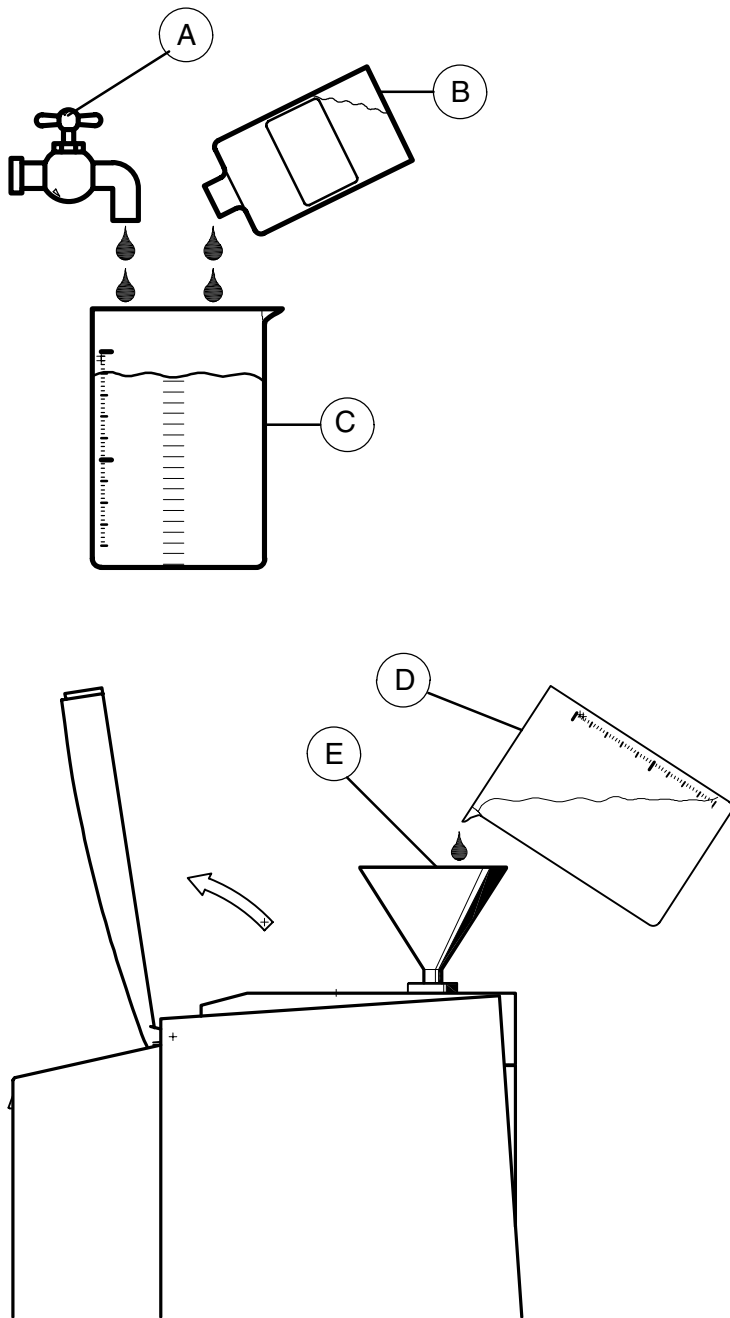

Fig. 5 Cleaning the cold-water reservoir
1. Dissolve a liquid disinfectant (fig.5 B), for example sodium hypochlorite, in approx. 2 litres water (fig.5 A). Use a clean measuring jug for this!
6. Use the funnel (fig.5 E) to pour the sodium hypochlorite solution (fig.5 D) into the water inlet.
- See fig.5 .